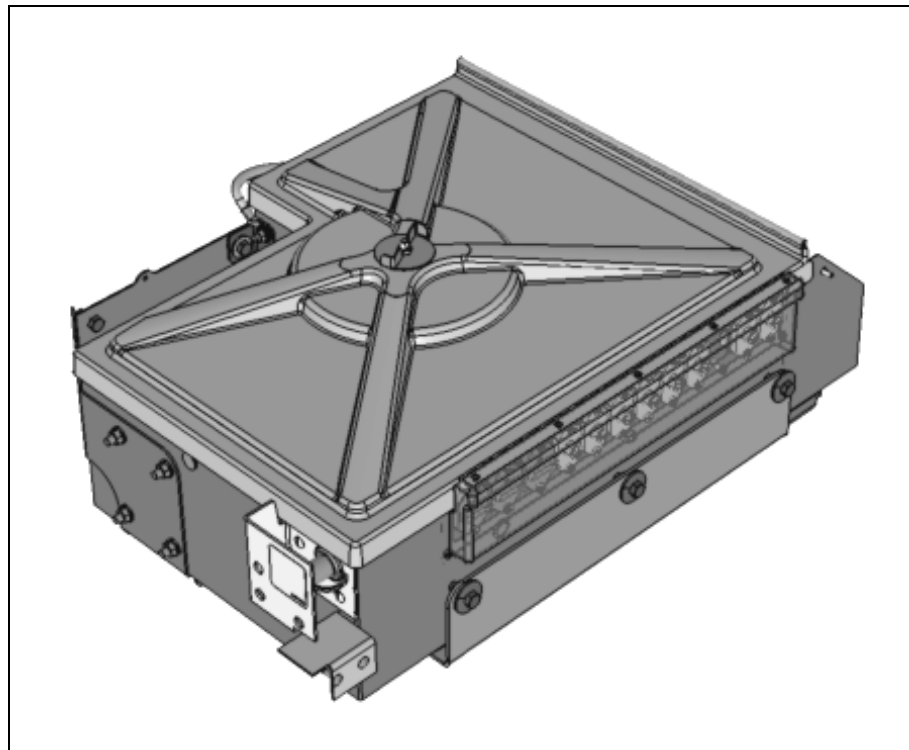

Fig.9 New cover installed
15. Install and tighten the new battery box cover (068858) using the provided wing nut (068765), check for proper fitting of the assembly (Fig.9).